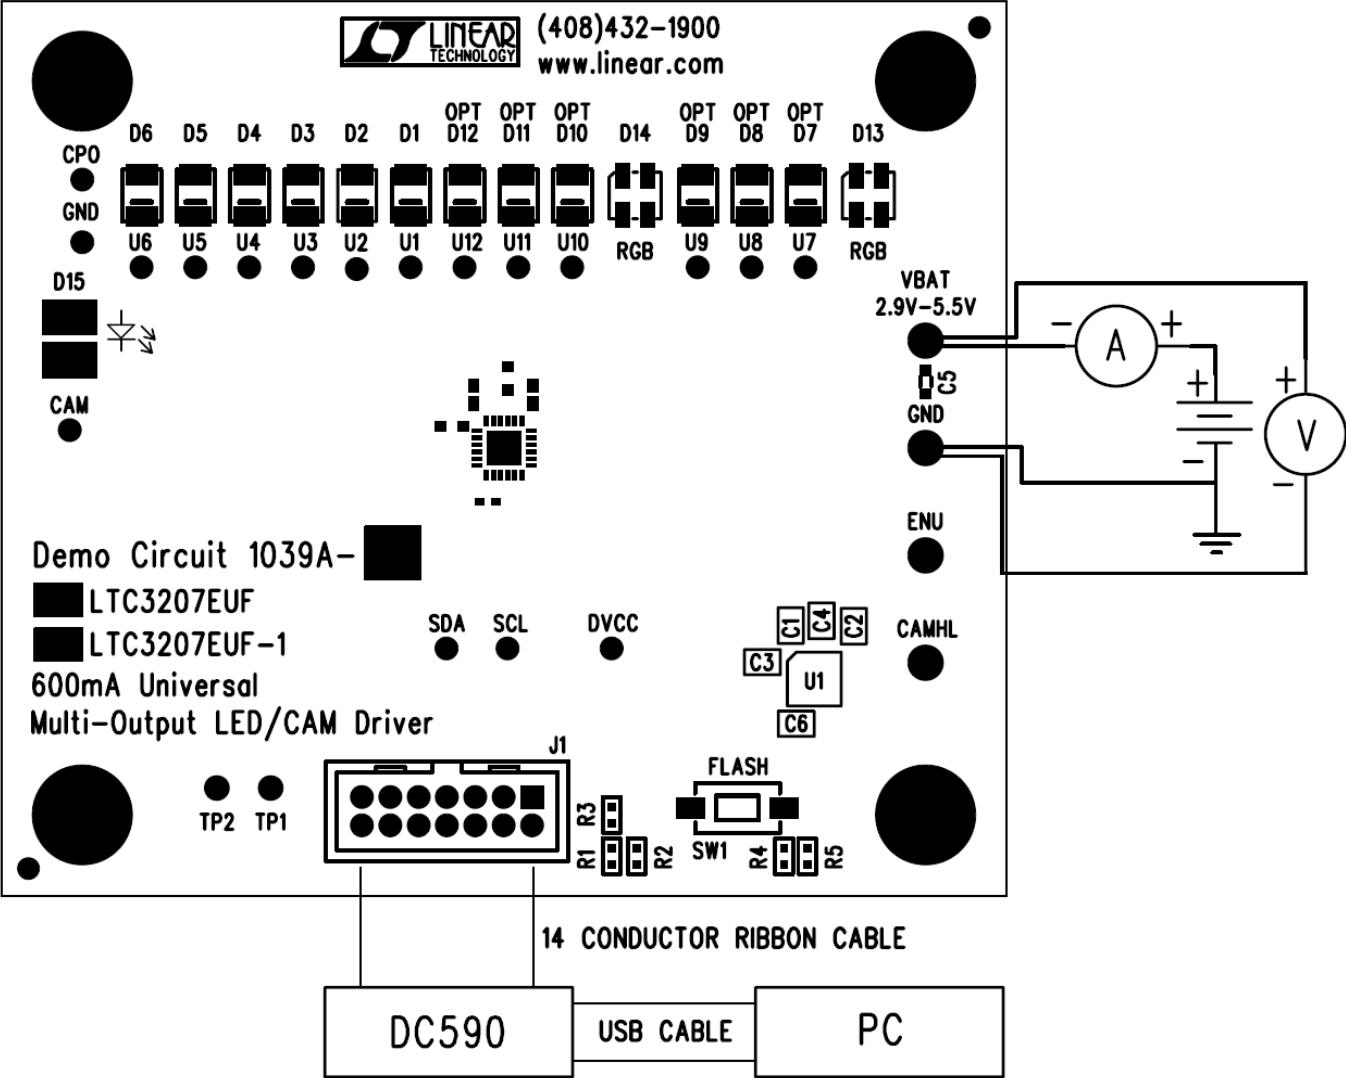

Figure 1. Proper Measurement Equipment Setup
Demonstration circuit 1039 is easy to set up to evaluate the performance of the LTC3207/LTC3207-1. Refer to Figure 1 for proper measurement equipment setup and follow the procedure below:
3. Connect DC1039 to the DC590 USB Serial Controller using the supplied 14-conductor ribbon cable as shown in Figure 1.
4. With power off, connect the input power supply to VBAT and GND with a series ammeter and a voltmeter as shown in Figure 1.